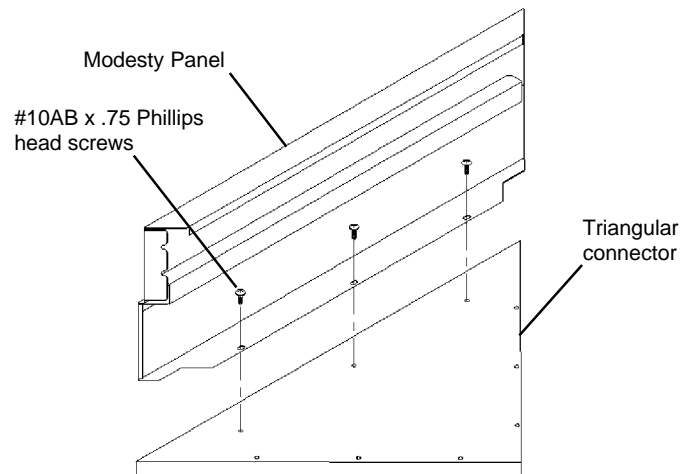

Figure 2
3. Attach the **Modesty Panel** to the bottom of the **Triangular Connector** using two or three #10AB x .75 Phillips head screws provided. See **Figure 2**.